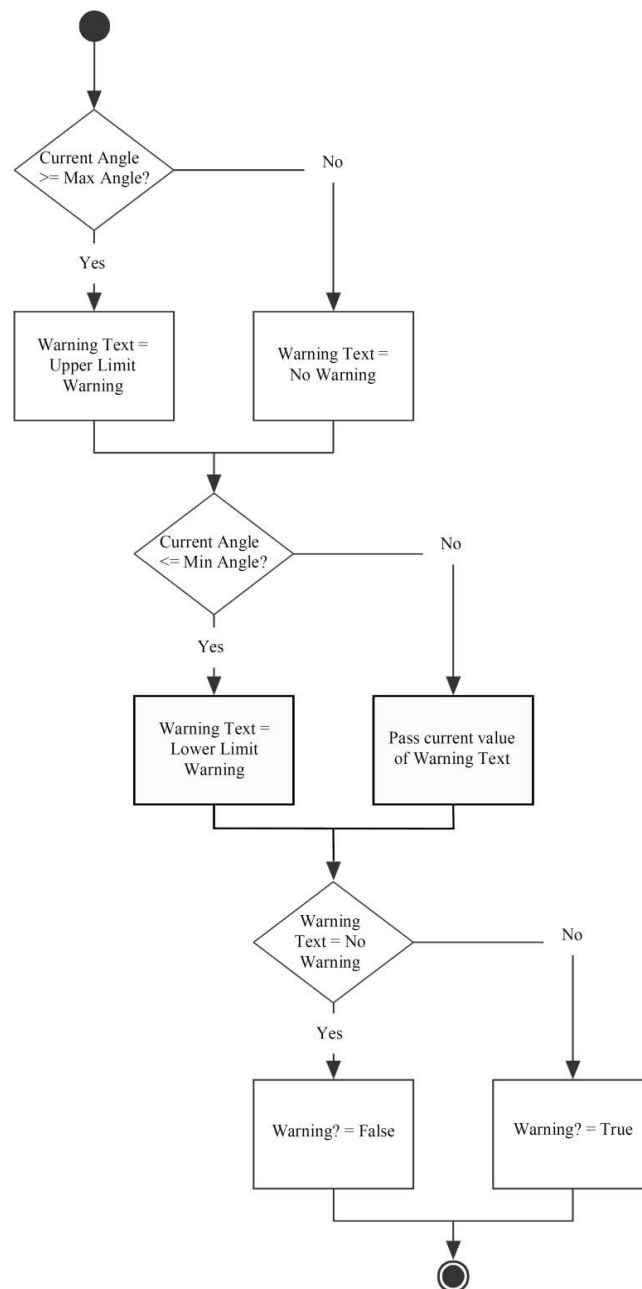

Figure 4.1 Determine Warnings VI Flowchart
- **Flowchart:** see Figure 4.1